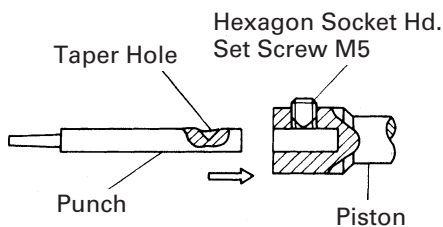

Fig. 9
- (c) Insert the new punch while aligning the taper hole of the punch and the direction of the M5 hexagon socket set screw, then securely tighten the hexagon socket set screw (see Fig. 9).
(2) Die replacement